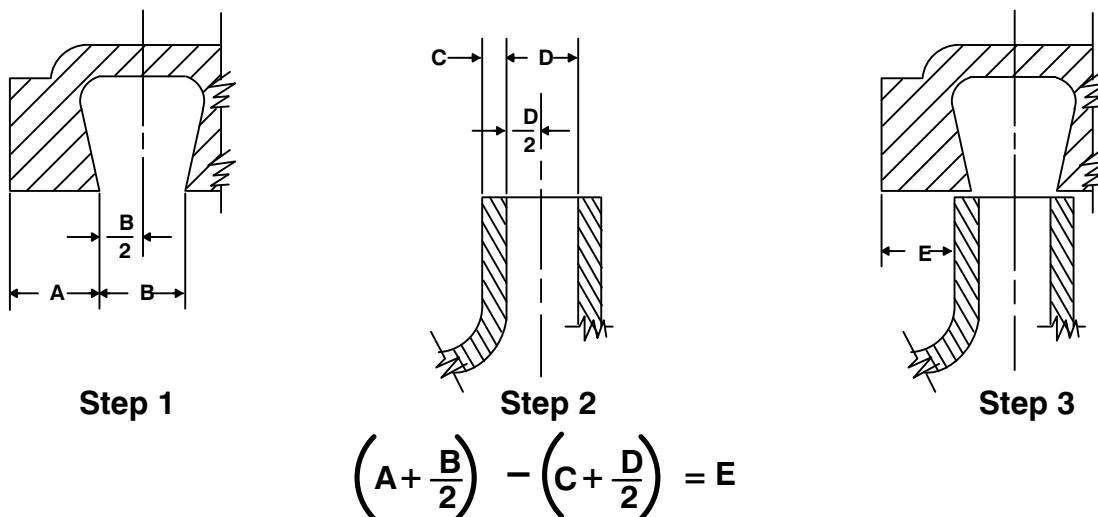

Figure 3. Centering Impeller Within Vane Plate Scroll
To verify the impeller positioning, measure the vane plate and impeller as shown in Figure 3. Use these measurements to calculate the required impeller location (dimension E). Add or remove impeller adjusting shims (15) until dimension E is obtained.